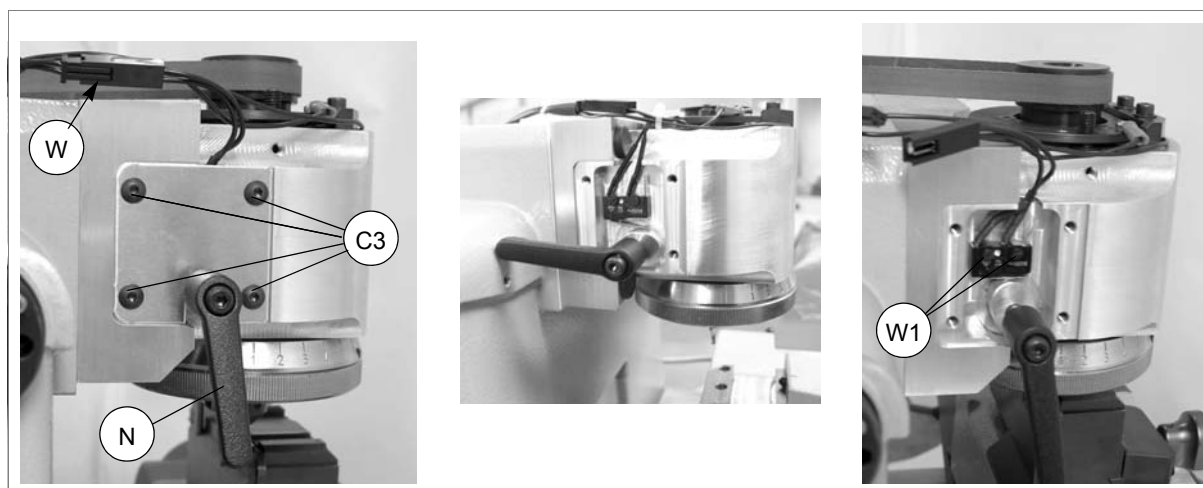

Fig. 86
- 2) loosen the 4 screws (C3) and remove the plate covering the microswitch (fig. 86).
- 3) disconnect the microswitch connector (W).
- 4) turn the lever/handle (N) anticlockwise to free the microswitch fin.
- 6) connect the connector (W) to the new microswitch.
- 8) before tightening the two screws (W1) adjust the microswitch position and check with the special test (Test 8, see Ch. 5.7.2, page 49). When locking the microswitch fin the lever/handle (N) should be positioned vertically downwards (fig. 86).